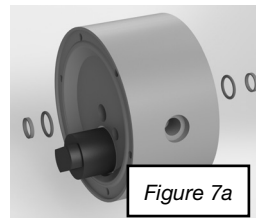

Figure 7a
- **After a diaphragm rupture always make sure no liquid is left at the air side of the pump. Especially the muffler (07) have to be checked before opening the pump.**
The fluid side of the complete range of VA-HCP SB pumps are built together the same way. The only difference are the number of assembly pins (23) used. The center section has the same built up for VA-HCP 15SB to VA-HCP 50SB. Every VA-HCP SB pump is delivered with an AV (Air Valve) tool (Figure 7a, 7b, 7c, 7d) which has on side pins to disassemble the air valve (27) and the opposite side can be used to push out the outer part of air valve from the center housing.